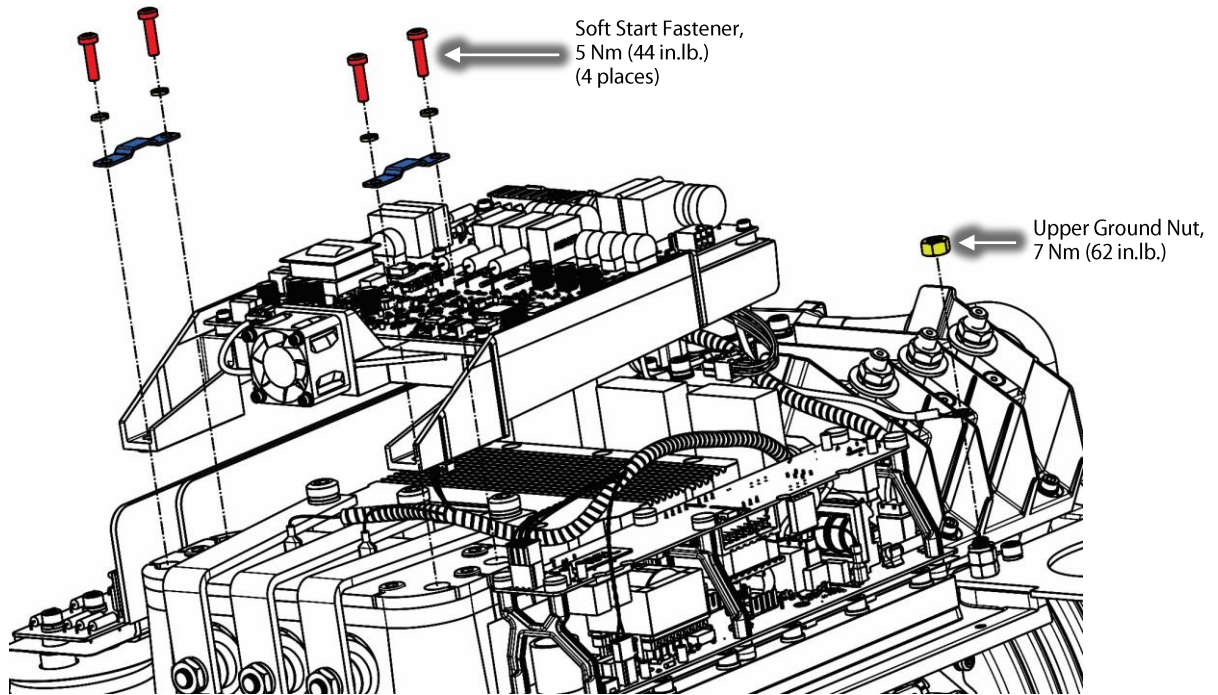

Figure 21 – Soft Start Installation
3. Install the new Soft Start with the new anti-rotation plates and fasteners. Torque the fasteners to 5 Nm (42 in.lb.). Refer to Figure 21 – *Soft Start Installation*.